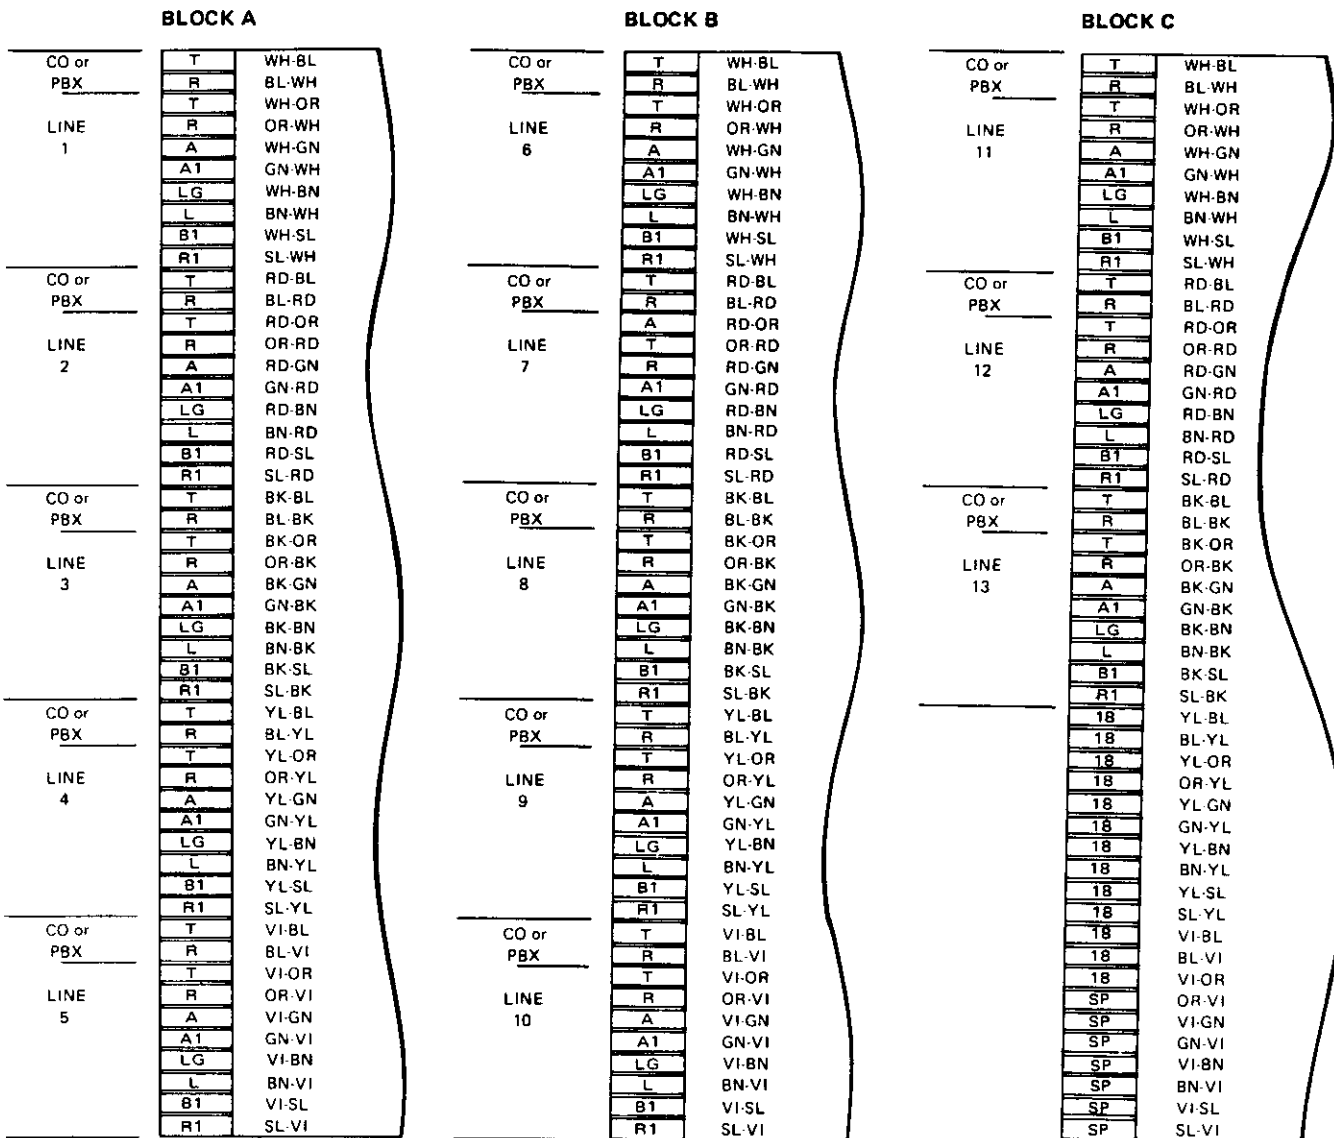

Figure 3: Arrangement of Key System Connecting Blocks
3.04 On the MDF (main distributing frame) or equivalent, mount three 25-pair connecting blocks. Label the blocks A, B, and C. Label the terminals on each block as shown in Figure 3.